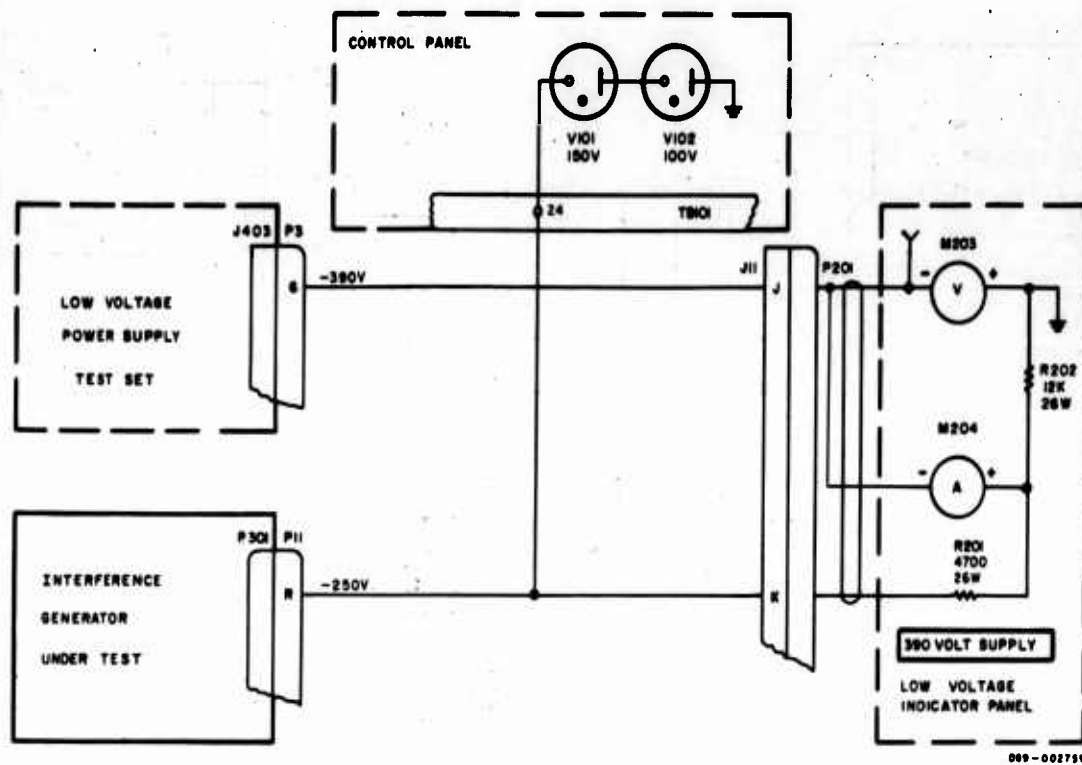

Figure 1-16. 390-Volt Power Supply Test Circuit, Interference Generator.
1-86. 390-VOLT DC POWER SUPPLY TEST. Figure 1-16 is a simplified schematic diagram of the circuit used for testing the 390-volt DC input to the interference generator module under test. Meter M203 of the low voltage indicator panel is a DC voltmeter connected across the 390-volt supply. This meter measures the voltage from the negative side of the supply to ground. Meter M204 of the low voltage indicator panel is a DC milliammeter in series with the supply and measures the load current of the 390-volt supply. Two voltage regulator tubes, V101 and V102, simulate the action of the frequency control module of the Barrage Jammer QRC-133A(T) system by regulating the voltage input to the interference generator module under test at a constant -250 volts. R202 is a load resistor. R201 is a voltage dropping resistor that drops the voltage from -390 volts DC to -250 volts DC.